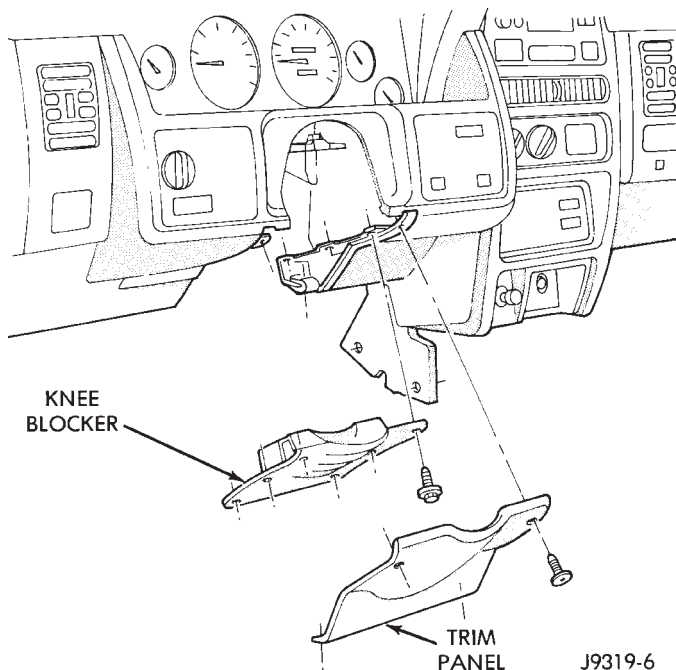

Fig. 2 Knee Bolster
(8) Remove 3 screws at lower column cover and remove cover (Fig. 2).
(9) Remove 6 screws at lower knee bolster and remove bolster (Fig. 2).